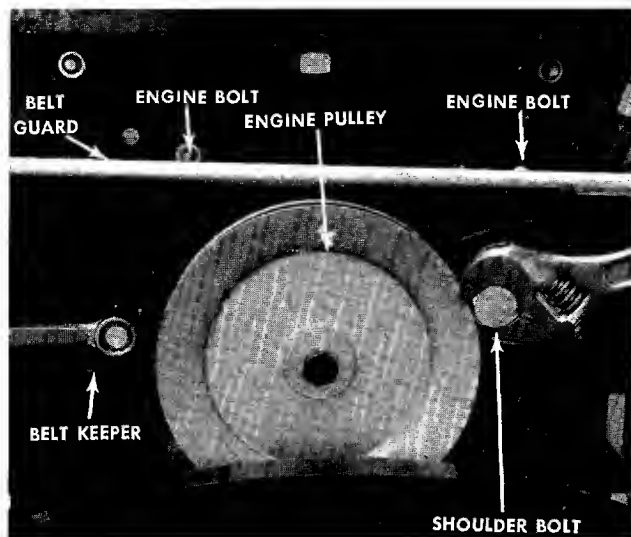

FIGURE 24. ENGINE PULLEY
Step 2. Remove the belt keeper and shoulder bolt next to the engine pulley. See figure 24.
Step 9. Removing the transmission belt. See figures 24 and 25.
- a. Remove the entire belt guard from the engine pulley by removing the two front engine bolts. See figures 24 and 25.